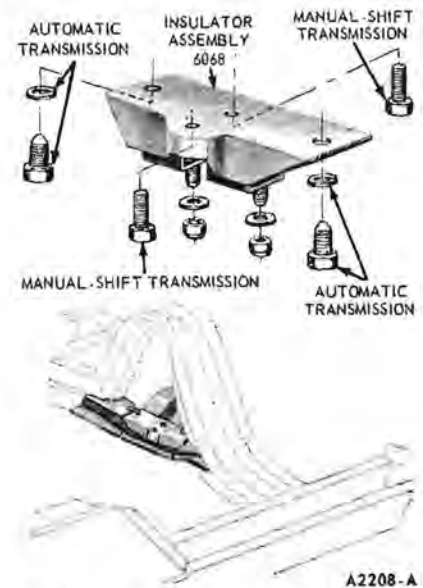

FIG. 17—Engine Rear Support
1. Remove the insulator assembly to crossmember retaining nuts and washers (Fig. 17).